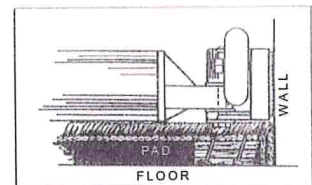

Figure 3
- D. Turning the tail block over to its flat side helps it stay put for multiple stretches. (See figure 3.)
- D. Turning the tail block over to its flat side helps it stay put, if necessary. (See figure 3.)